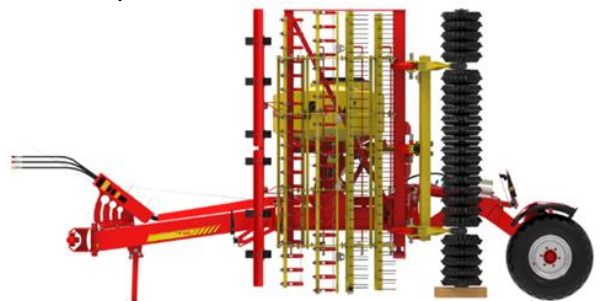

Figure 31
- The implement must be folded and the running gear must be lowered (see Figure 31).
- Set down the implement longitudinally on the low-bed trailer (see Figure 31).